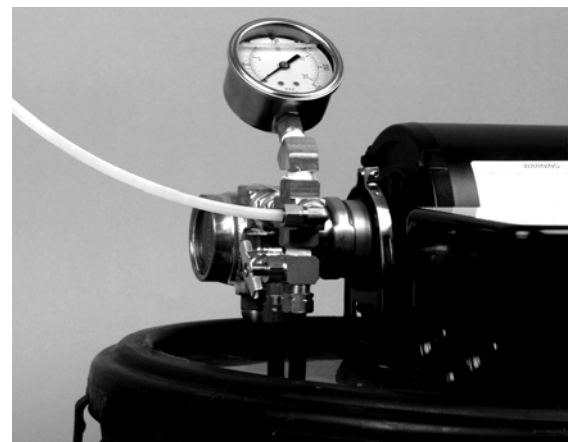

Figure 3 – Pressure Gauge Mounted Into Brass Cross Assembly
6. Remove the pressure gauge from its package and screw it into the top of the brass cross assembly (figure 3).
12. After all the spray nozzles have been installed, run one end of the tubing back to the drum and insert it into the male elbow of the brass cross assembly (figure 3). Tighten nut snug to a  $\frac{1}{4}$  turn with wrench. Leave slack in line to allow easy shifting of lid to add insecticide.